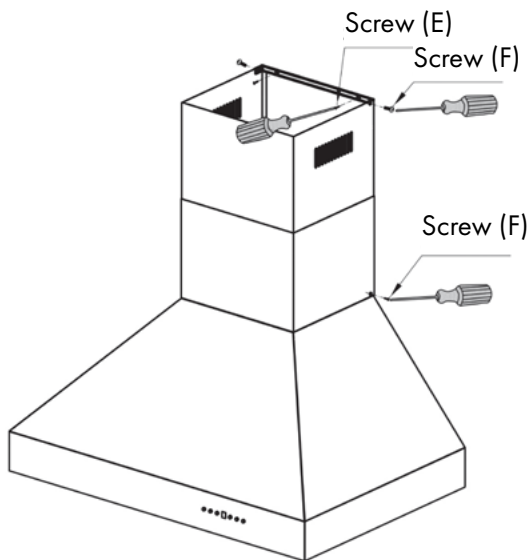

Figure 7
- Place the two-part telescoping chimney on top the hood. Slide the inside section up until the vertical vent slots are visible, then attach the top portion to the mounting bracket with 2 screws (F). Secure the lower portion to the hood with 2 screws (F). **NOTE:** Screw (E) noted below was installed earlier in step 4. *Figure 7*